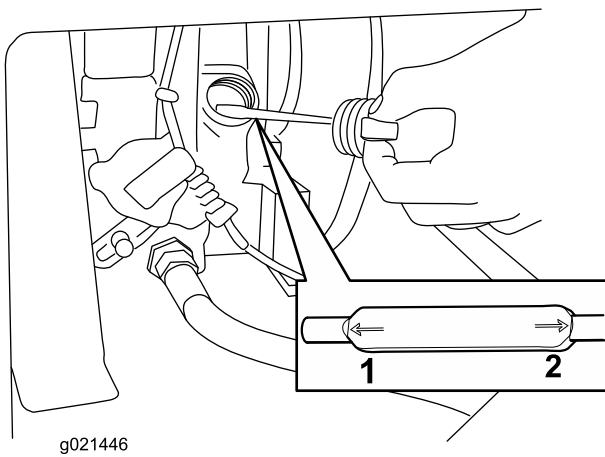

Figure 6
3. Clean around the dipstick (Figure 6) so that dirt cannot fall into the filler hole and damage the engine.
4. Unscrew the dipstick and wipe the end clean (Figure 6).
5. Screw the dipstick fully onto the filler tube (Figure 6).